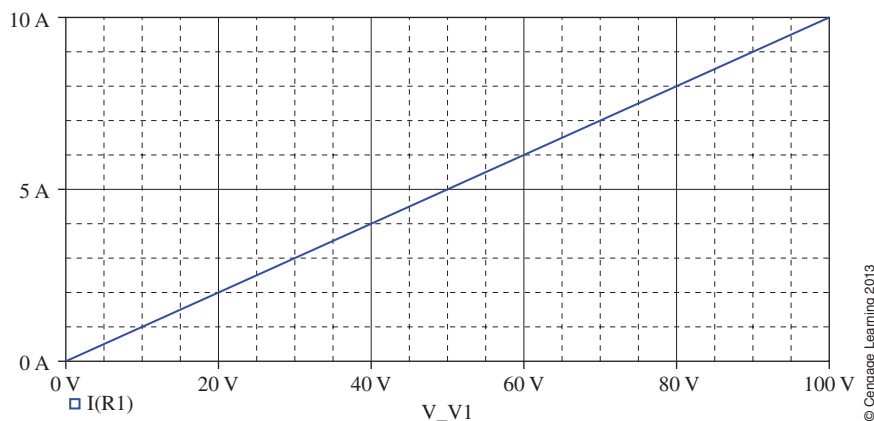

FIGURE 4–31 Ohm's law plot for the circuit of Figure 4–29 with $R = 10\ \Omega$.
- This opens the *Schematic 1: Page 1* screen. Now rebuild the circuit of Figure 4–27. Set *R* to 10 ohms. Leave the source voltage at its default value of 0 volts.
- Click the *New Simulation Profile* icon, type **Figure 4–31** as your file name, leave *None* in the *Inherit From* box, then click *Create*. A *Simulations Setting* box opens. (You may have to minimize your workspace screen to see it.) Click the *Analysis* tab, select *DC Sweep* from the *Analysis Type* list and *Primary Sweep* from the *Options* list. For *Sweep Variable*, choose *Voltage Source*, and in the *Name* box type the name of your voltage source. (It will be *V1*.) Choose
- Click the *Current Marker* icon and position the marker as shown in Figure 4–30. (It will be gray, not green.) Press *Esc* to get your normal mouse pointer back.
- The Ohm's law plot of Figure 4–31 will appear on your screen (except that it may have a black background). You can either keep the black background or change it as follows: Click *T*ools, *O*ptions, *C*olor Settings, *B*ackground, select white, then click *OK*.
FIGURE 4–30 Using a current marker to display current. (The marker will be gray when you place it, but it takes on the color of the trace that it creates when you run the simulation.)